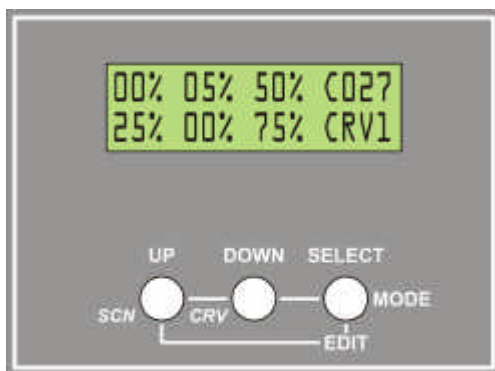

Fig.1
Fig.1 shows how D610 control panel looks like, when in normal display, and after receiving DMX data for channels 27 to 32. “C027” (right side, upper corner), shows that selected DMX channel is 27, and “CRV1” (right side, lower corner), shows that all channels has dimming curve 1 pre-set. If one or more channels have different pre-set curves, an “\*” should be displayed.
- If we want to select DMX channel 27 (following fig.1 example), this digit should be "0". In that case we should follow to "tens" digit, touching **SELECT** key once. "Tens" digit will blink: **C001**. Touching two times **UP** key, number **2** will appear. Now we'll need to define "units" digit. Touch again **SELECT** key and "units" digit will blink: **C021**. We need to touch **UP** key six times (or **DOWN** key four times) and we'll have units selected on number **7**. We have set up the dimmer at channel **27**.